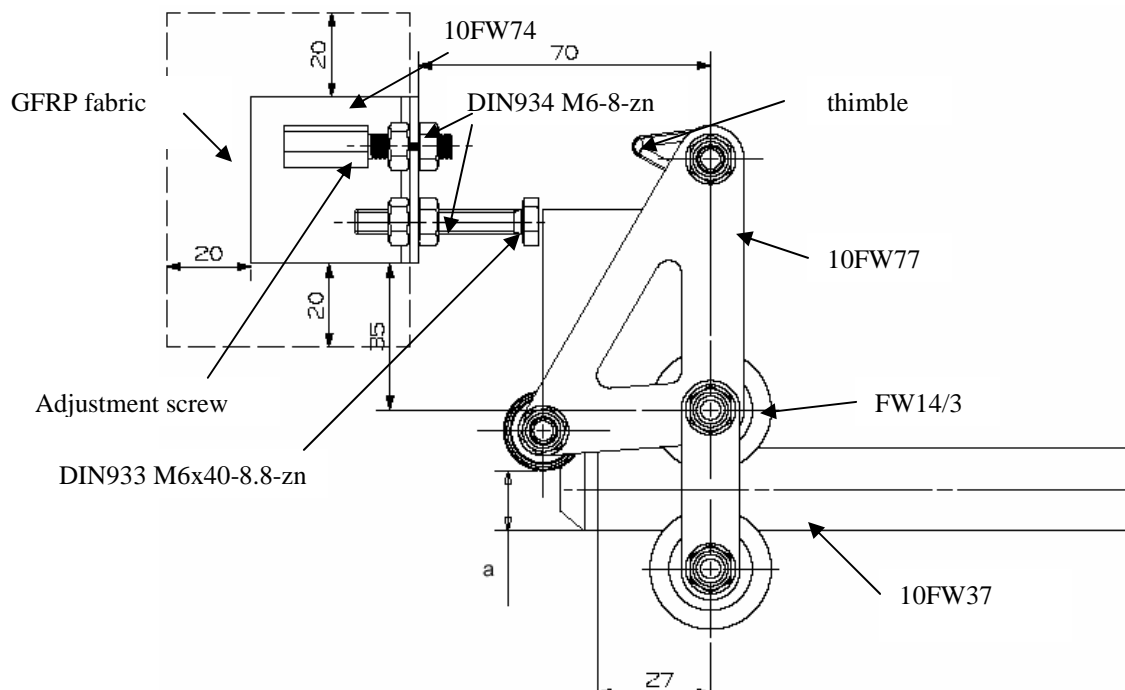

figure 17: Installation of the bracket for stop and Bowden cable adjustment
13. Fix the bracket 10FW74 (for stop bolt and Bowden cable) to the left fuselage wall according to figure 17. To accomplish this roughen the gluing areas (fuselage and both sides of 10FW74). Mix resin L285 with hardener H286 and thicken with cotton flocks. Apply the mix to the gluing surface of 10FW74. Mix UHU Plus and thicken with cotton flocks. Position 10FW74 at the fuselage wall and apply the UHU Plus mix to the 4 edges of 10FW74. Hold 10FW74 until the UHU Plus has cured. Then fix 10FW74 with 2 layers of glasfibre fabric 92125 $\pm 45^\circ$ and resin / hardener mix L285 / H286. Let cure over night at room temperature. Then postcure for min. 18 hours at 54°C.
1. Install stop bolt DIN933 M6x40 to 10FW74. Adjust the stop (see figure 17) so that dimension a will be between 14.5 and 15.5 mm.